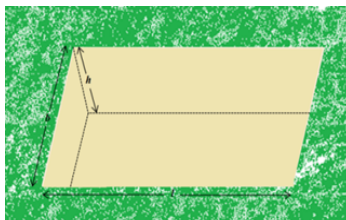
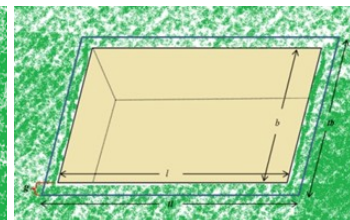

Figure 1
Figure 2
2. Measure the base length (l), and the base breadth (b) on the leveled ground (Figure 1). These length and breadth will be the length and breadth of the pond floor. Dig out the soil till 1.2 m height (h) to construct a cuboidal pond (Figure 2).